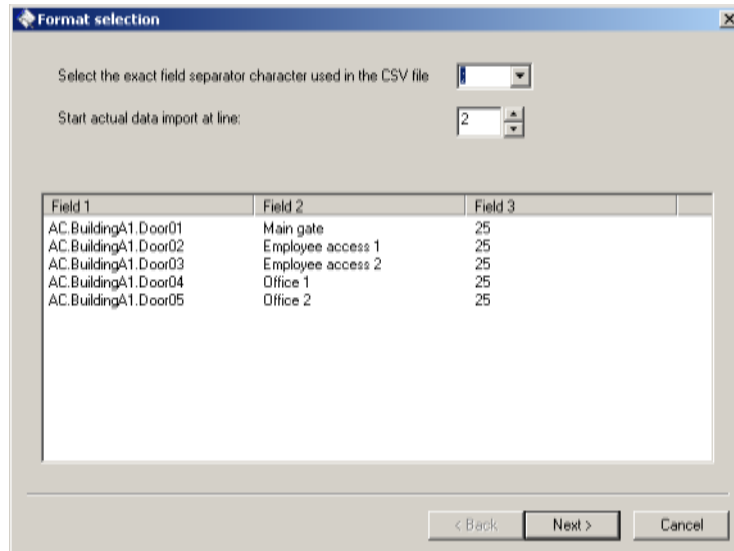

Fig 28 Step 1 of Import Wizard: separation character and starting line
- In the first page (Fig 28) you can set the data separator character (typically comma or semicolon) and the starting line (1 or possibly 2 if a title row is present)